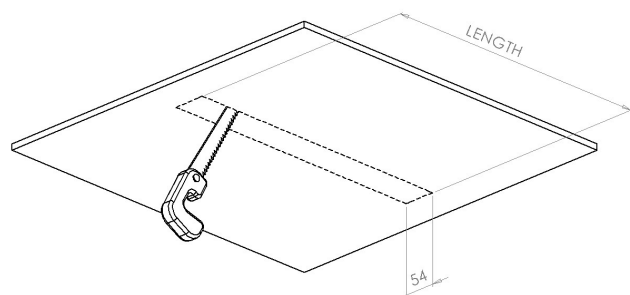

FIG. 3
- Use a pencil to mark out the dimensions needed for the fitting. Keep in mind that both end caps will only need the dimension of the original fitting (Fig. 3)